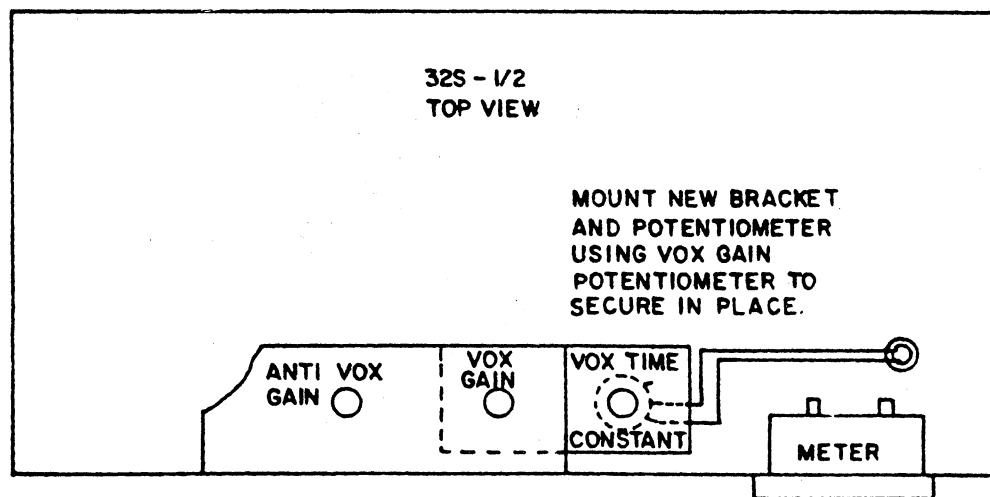

Figure 3. Mounting VOX Time Constant Control
9. Place VOX TIME CONSTANT control bracket over the shaft of the VOX GAIN control and insert VOX GAIN control in its original position. Tighten mounting hardware. Refer to figure 3.
11. Solder remaining 18-inch wire to the counterclockwise (viewed from shaft end) terminal of VOX TIME CONSTANT control as shown in figure 3.
4. Solder a short piece of bus wire across 470K-ohm resistor R70. R70 is located at the left edge of the chassis near relay K1 and soldered between terminal 4 of terminal strip TS25 and terminal 3 of adjacent terminal strip TS26A. (Refer to figure 3.)